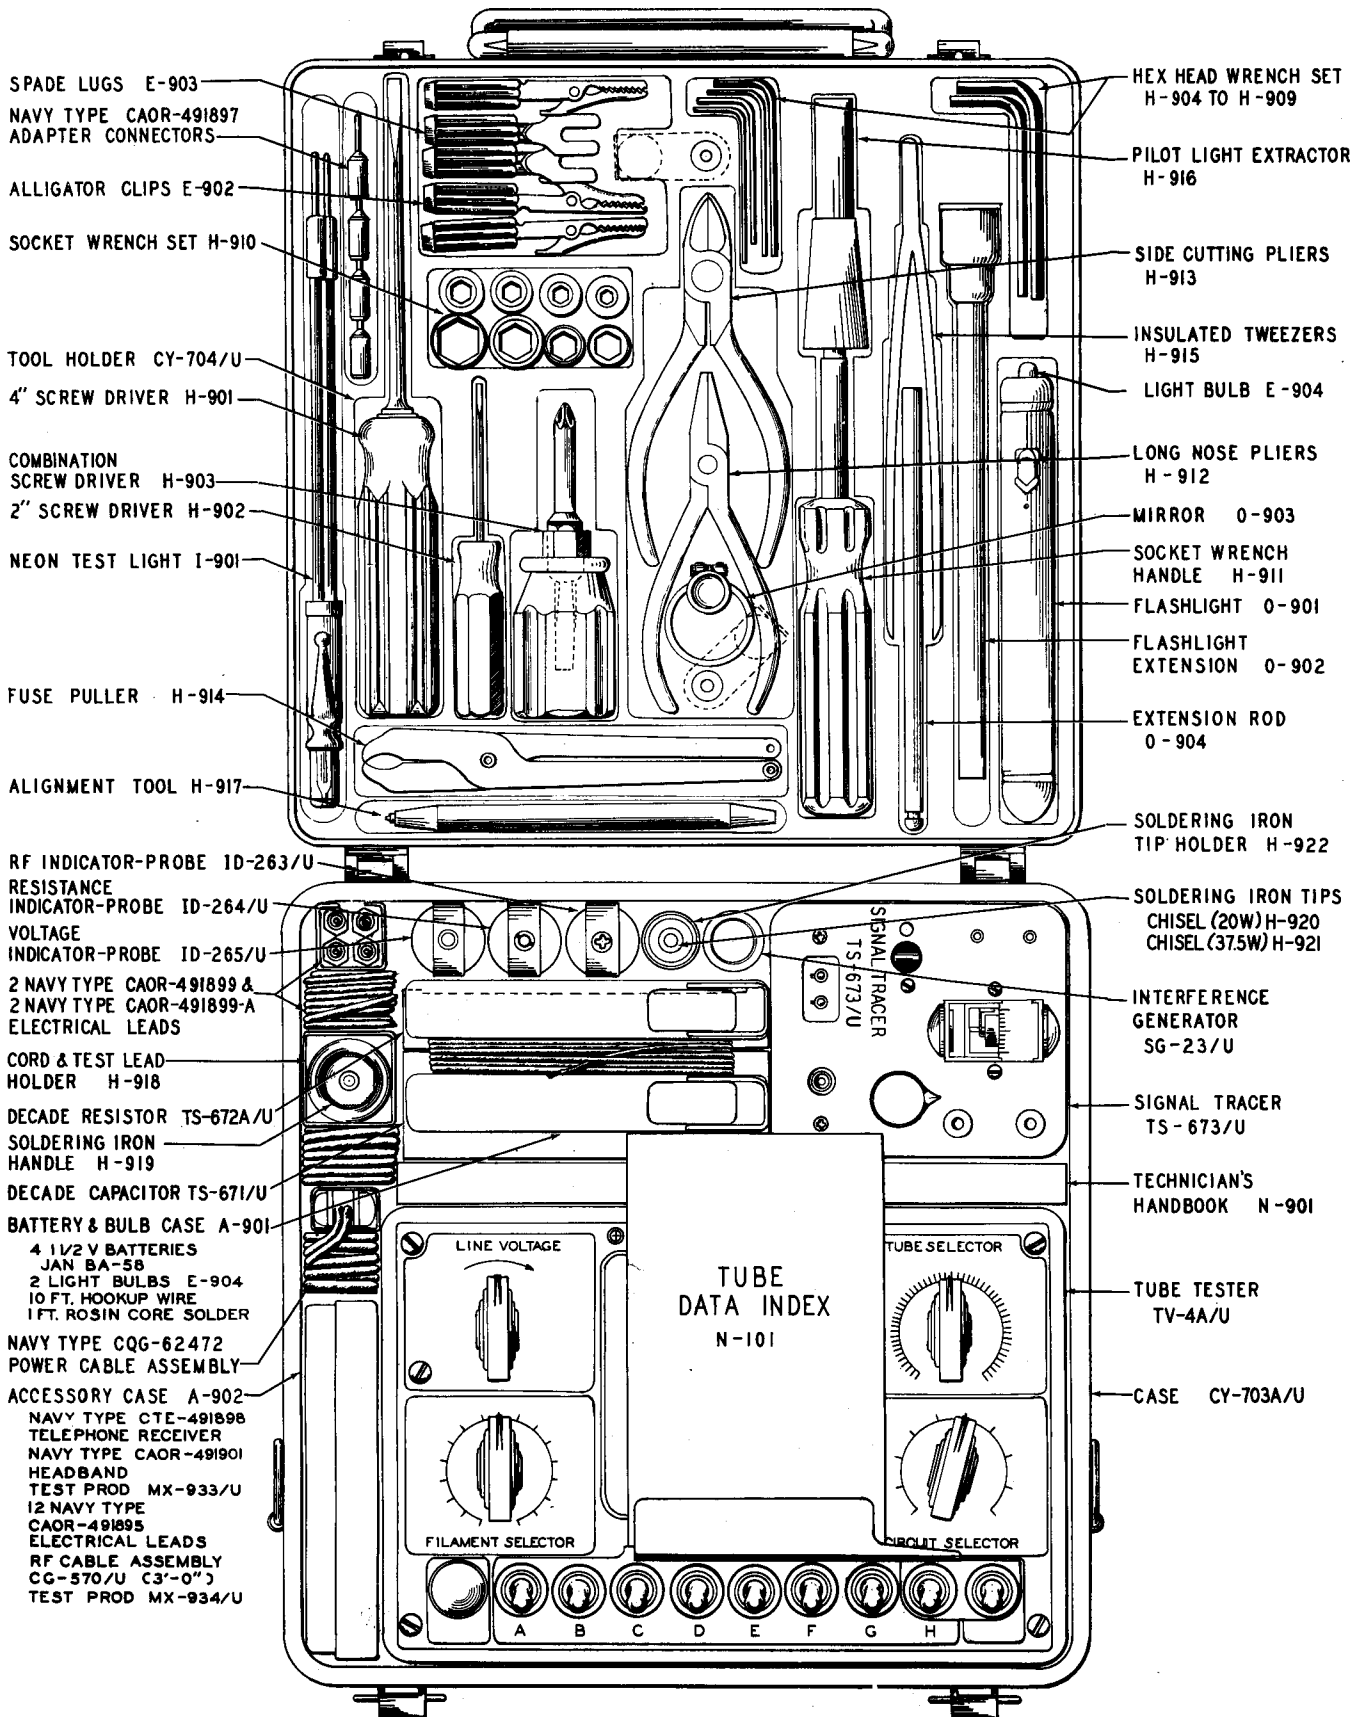
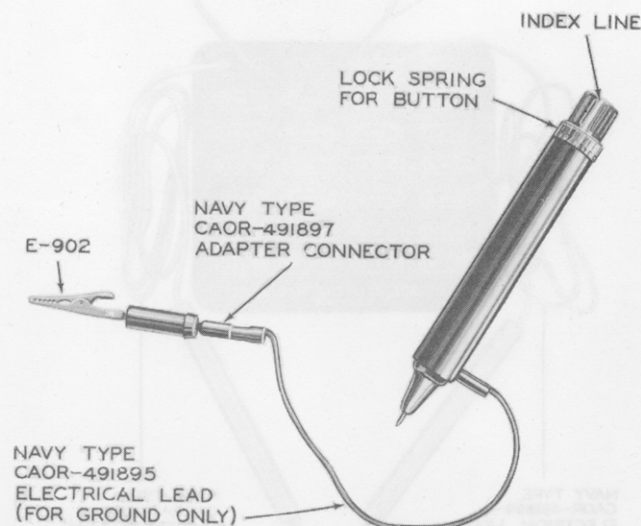

Figure 1-1. Test-Tool Set AN/USM-3A, Identification of Units
Figure 1-4. Interference Generator SG-23/U and Navy Type CAOR-491895 Electrical Lead, Identification
This instruction book covers Test-Tool Set AN/USM-3A as shown in figure 1-1. The units are shown in place in the carrying case.
able or where all necessary precision test equipment is damaged or cannot be carried. To accomplish this end, a compact, lightweight case is supplied with the items as shown in figure 1-1 fitted into it so that all items are accessible and easily located.
a. CASE CY-703A/U. (See figure 1-1.) - The Case consists of two drawn aluminum covers 9-1/2 x 9-1/2 x 3-1/2 inches which are hinged together, forming a box 7 inches deep. Latches, fittings, and a handle are provided.
The amplifier is capable of amplifying AC voltages from 47 to 15,000 cycles per second when used with the Test Prod MX-933/U. Audio modulation on voltages having frequencies from 15,000 cycles to 400 megacycles is detected by Test Prod MX-934/U and amplified by the Signal Tracer. The Signal Tracer is located behind the Tube Tester as shown in figure 1-1.
The Telephone Receiver and Headband, RF Cable Assembly, Electrical Leads CAOR-491895, and Test Prods are in the Accessory Case to the left of the Tube Tester (see figure 1-1) and are listed in table 1-3 under Accessories.
d. INTERFERENCE GENERATOR SG-23/U. (See figure 1-4.) - This unit is an aperiodic impulse buzzer type generator housed in a probe case. Pressing the button at the top connects the battery to the buzzer. The white line on the button indicates the position of the attenuator. The buzzer is connected directly to the probe tip in position 1 and through a variable capacitor in positions 2 through 10. The buzzer frequency is approximately 1000 cycles per second with harmonics extending up to approximately 400 megacycles. It is used to generate audio and radio frequency voltages for test purposes. It is used with Navy Type CAOR-491895 Electrical Lead, Navy Type CAOR-491897 Adapter Connector, and Alligator Clip E-902. These items are located in the Accessory Case and in the Tool Holder. (See figure 1-1.)
The Interference Generator is located next to the Signal Tracer in the back of the Case as shown in figure 1-1.
This Probe is located in the Case behind the Tube Tester. (See figure 1-1.)
To reach into a deep chassis or into high voltage areas, the Extension Rod O-904 is provided. This rod slips onto the tip of the Probe. When used, it normally increases the sensitivity of the unit. It is stowed in the Tool Holder, and the Probe is located at the rear of the Case as shown in figure 1-1.
g. RESISTANCE INDICATOR-PROBE ID-264/U. (See figure 1-7.) - Also of the probe type, this unit consists of a meter movement, a calibrating resistor, and a 1-1/2-volt battery enclosed in a plastic case. The scale is marked from 0 to 10,000 ohms. The electrical connections are at the probe tip and through a test lead plugged into the top of the case. This Probe is used with Electrical Lead CAOR-491899-A, which is located on the Cord and Test Lead Holder. For its location in the Test-Tool Set refer to figure 1-1.
h. DECADE RESISTOR TS-672A/U. (See figure 1-8.) - This unit consists of a molded plastic case housing 28 two-watt resistors, each insulated from the other. The values are arranged in a one, two, three, six series from one ohm to six megohms; thus allowing any value between one ohm and 12 megohms to be obtained in steps of one ohm by connecting the proper resistors in series by means of the Navy Type CAOR-491895 Electrical Leads. Figure 1-1 shows its location in the rear of the Case.
- Consisting of a molded case similar to the Decade Resistor, this unit contains a series of capacitors covering a range between 0.0001 microfarad and 48 microfarads. Individual capacitors having values of 0.0001, 0.0003, 0.001, 0.003, 0.01, 0.02, 0.1, and 0.25 microfarads, rated at 600 volts, are placed as indicated by the front panel markings. The two 20/4-microfarad electrolytic capacitors each have a common negative. Other values in the range covered can be obtained by the use of electrical leads. The Decade Capacitor is located in the Case immediately in front of the Probes as shown in figure 1-1.
for the capacity meter function of the Tube Tester. They are stowed in the Tool Holder CY-704/U as shown in figure 1-1. The units adapt a banana plug to a phone tip jack.
n. **TOOL HOLDER CY-704/U.** (See figure 1-1.) - It consists of two pressed, transparent, plastic sheets with recesses provided for stowing each tool. The bottom sheet is fastened to the inside top of Case CY-703A/U. The top sheet holds the tools in their respective compartments and is secured by two snap-slides. The name and standard Navy stock number of each tool appears in the bottom of its individual compartment, and all tools are installed in the top of the Case. The top sheet, or tool cover, is held by a wire to prevent its loss when open.
o. **TECHNICIAN'S HANDBOOK.** (See figure 1-1.) - This book is provided for ready reference on the part of the operator when making emergency repairs and includes sufficient technical data and information necessary to use the Test-Tool Set. It is located in the Case in back of the Tube Tester.
p. **BATTERY AND BULB CASE.** (See figure 1-1.) - Pressed from plastic, this case provides storage space for four 1-1/2-volt flashlight batteries JAN BA-58, two flashlight bulbs, 10 feet of hook-up wire, and one foot of 50/50 rosin core solder.
q. **TOOLS AND MINOR ITEMS.** (See figure 1-1.) - The tools and items listed below are contained in the Tool Holder in the top of the Case, unless otherwise noted.
- (1) Fuse Puller H-914 - flat dual size.
- (2) Pilot Light Extractor H-916 - a rubber cup device to aid in the removal of pilot lamps from inaccessible locations.
- (3) Hex Head Wrench Set H-904 to H-909 - 0.050, 1/16, 5/64, 3/32, 1/8, and 5/32.
- (4) Insulated dental type Mirror O-903 - can be attached to Flashlight Extension O-902 to examine areas hidden from direct view.
- (5) Insulated Tweezers H-915 - 6 inches.
- (6) Flashlight O-901 with lucite Flashlight Extension O-902.
- (7) Long Nose Pliers H-912 - 4 inches.
- (8) Side Cutting Pliers H-913 - 4-1/2 inches.
- (9) Socket Wrench Set H-910 - 3/16, 7/32, 1/4, 9/32, 5/16, 11/32, 3/8 and 7/16 with Handle H-911.
- (10) Neon Test Light I-901 - 200,000 ohms impedance, 60-500 v AC, and 90-500 v DC - tests for presence of voltage.
- (11) Combination Screwdriver H-903 with interchangeable 1/4-inch slot drive bit and #2 Phillips drive - stubby size.
- (12) Screwdriver H-901 - 4 inches with 3/16-inch blade.
(13) Screwdriver H-902 - 2 inches with 3/32-inch blade.